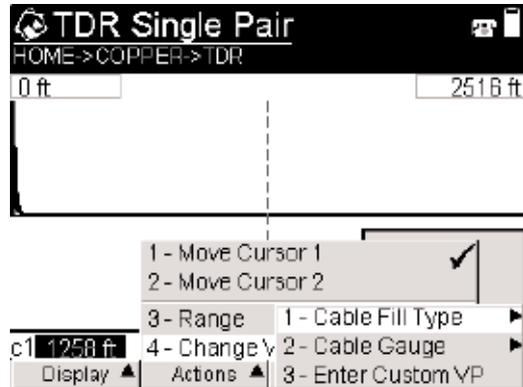

Figure 2 Setting the velocity of propagation (VP)
- Select *Change VP* (See Figure 2).